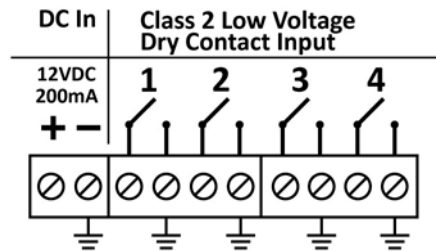

Figure 1 - Low-Voltage Wiring Diagram Option
2. Connecting a 12VDC power supply to the + - power inputs of the Low Voltage terminal connector shown in Figure 1.